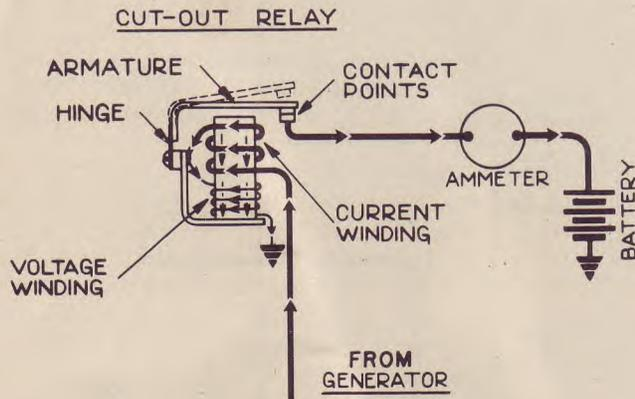

FIGURE 2-4
**The Cut-Out Relay** (Figure 2-4) has two windings assembled on a core, a current winding of a few turns of heavy wire which carries full generator output, and a voltage winding of many turns of very fine wire which is connected across the generator so that full generator voltage is impressed upon it at all times. Above the winding core is a flat armature which carries a contact point. When the generator is not operating, the armature is held away from the windings by spring tension. When the generator begins to operate,